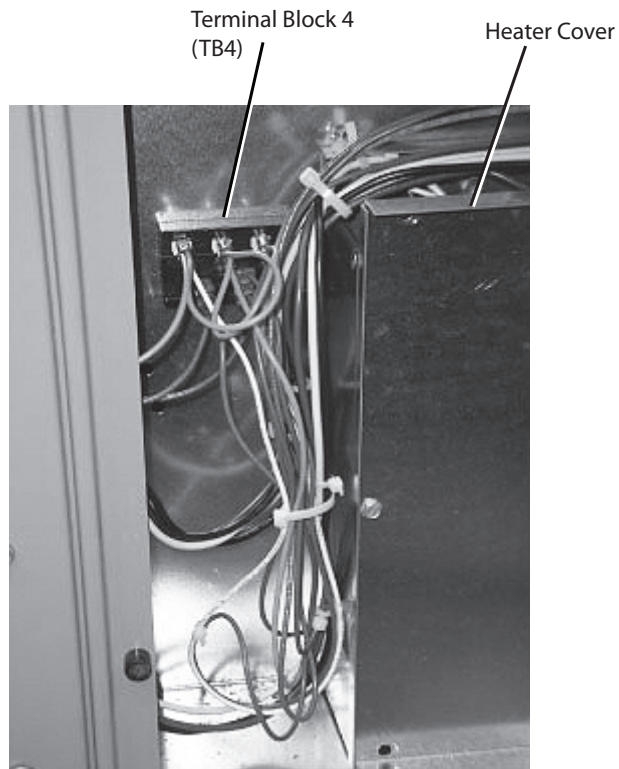

Fig. 43 - Heater Wiring
4. Connect the heater control wiring to terminal block TB4 (located left of heaters, see Fig. 43 and 44.)